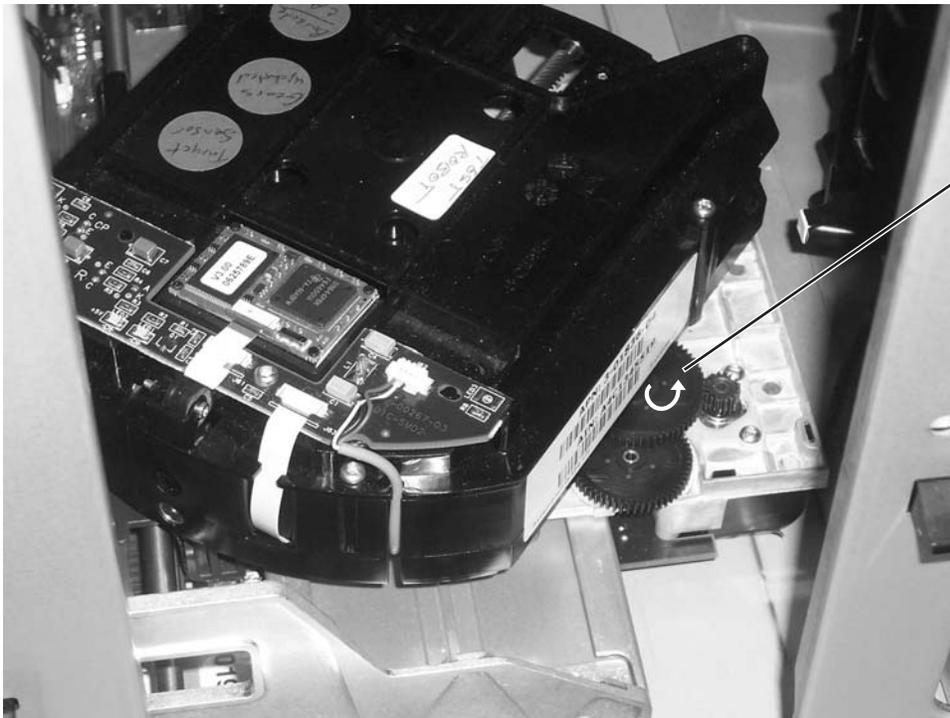

Figure 7-16. Picker rotated for drive gears access
1. Manually rotate the Picker so you can access the 3 drive gears, as shown in Figure 7-16.